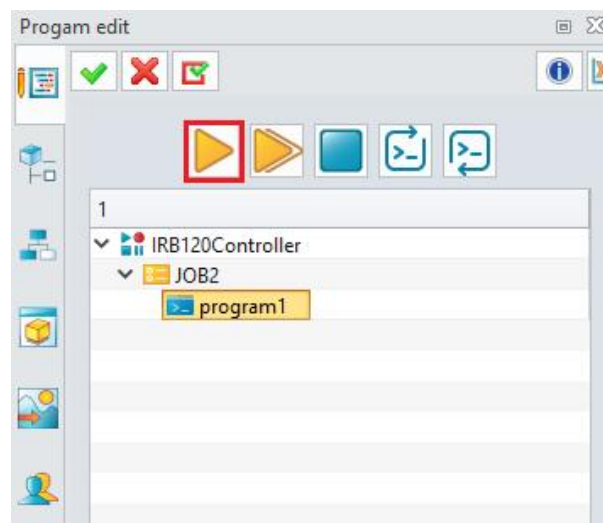

Figure 9-16: Simulation Button
- **Initiating Simulation:** Click on the "Run" button within the "Program Edit" window. This will initiate the simulation process and execute the programmed instructions for the robot. (Figure 9-16)